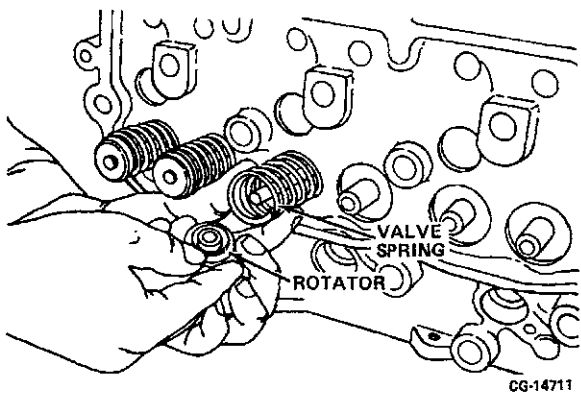

Figure 4.62. Install Valve Spring and Rotator
6. Install the valve spring and rotator with oil shield. Refer to Figure 4.62.